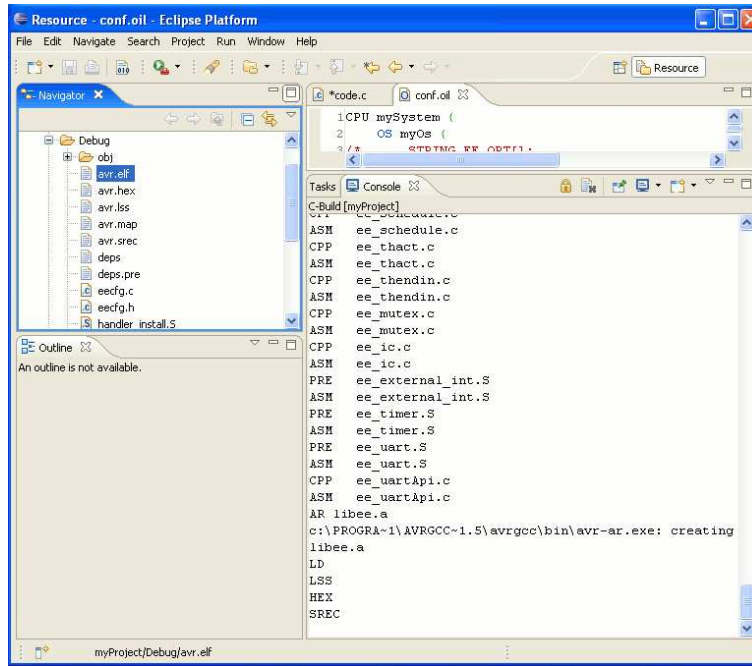
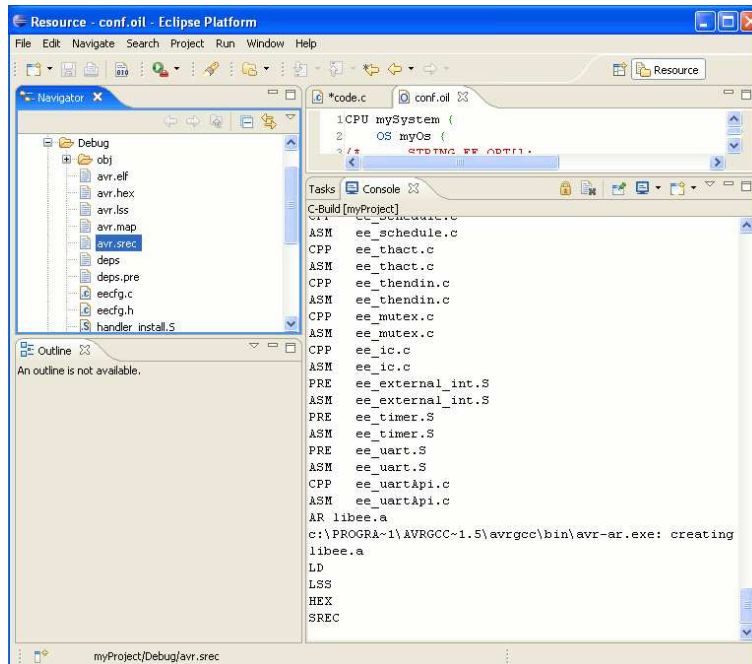

Figure 4.7: The output file is ready to be programmed on the target board.
Figure 4.8: The output file is ready to be programmed on the target board.
7. At the end of the compiling process you will be able to find a file named `avr.elf` and a file named `avr.srec` inside the `Debug` directory inside the project, as shown in Figure 4.7 and in the figure 4.8.